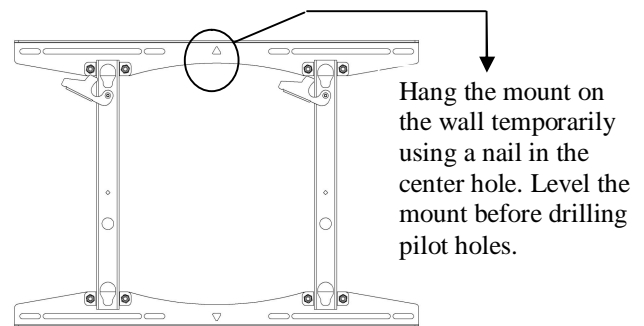

Figure 2. Use Triangular Hole to Hang the Mount
3. Using a nail as a temporary hook, hang the mount on the wall using the triangular hole located in the center of the mount (see Figure 2).